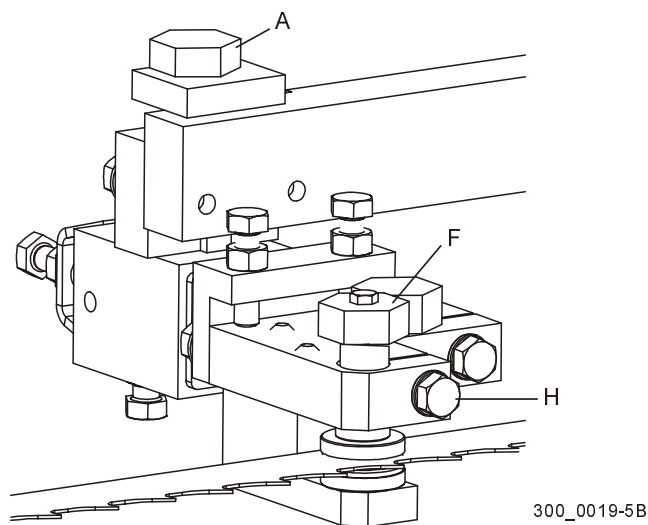

FIG. 7-11
See Figure 7-11. Turn bolt (F) counterclockwise to raise the top guide disk off the blade. Turn bolt (A) counterclockwise to lower the bottom guide disk.